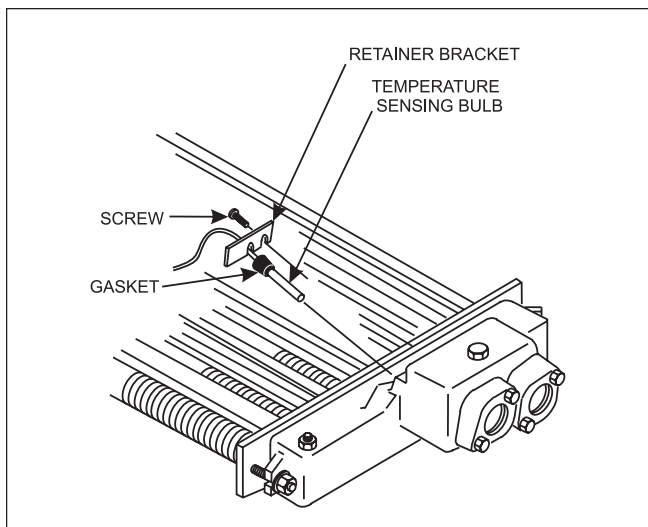
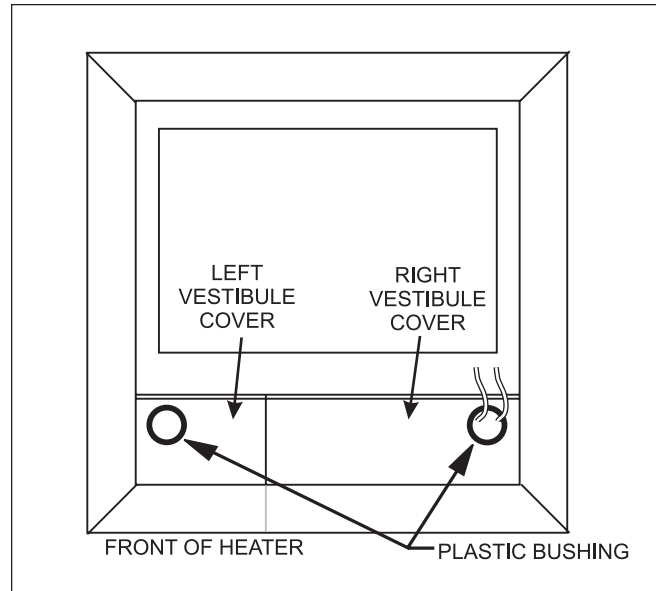

Figure 10. Temperature sensing bulb
Figure 11. Vestibule covers
7. Tag and disconnect the white wire on the pressure switch (PS) and the white wire from the fusible link.
10. Loosen the screw securing the temperature sensing bulb retainer bracket. Slide the retainer bracket off the bulb flange and remove the bulb from the header (see Figure 10). Pull pressure switch tube through the hole in the vestibule cover and into the vestibule (controls compartment), then pull the thermostat bulb assembly through same hole (see Figure 11).